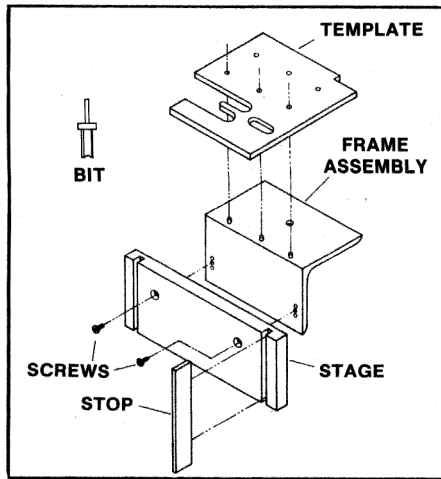

Fig. 1
1. Assemble the stage (Fig. 1), to the frame assembly (Fig. 1) with the two screws furnished with the template.